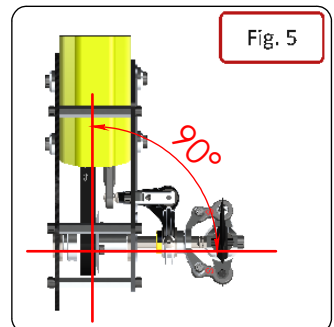

Fig. 5
- Check that the tail output shaft is perpendicular to the boom (Fig 5).